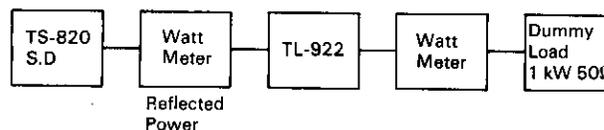

Fig. 15 Equipment Connection
- a. Connect the exciter to the linear amplifier according to **Fig. 15**.
- a. Connect equipment according to **Fig. 15**.
- a. Interconnect according to **Fig. 15**.